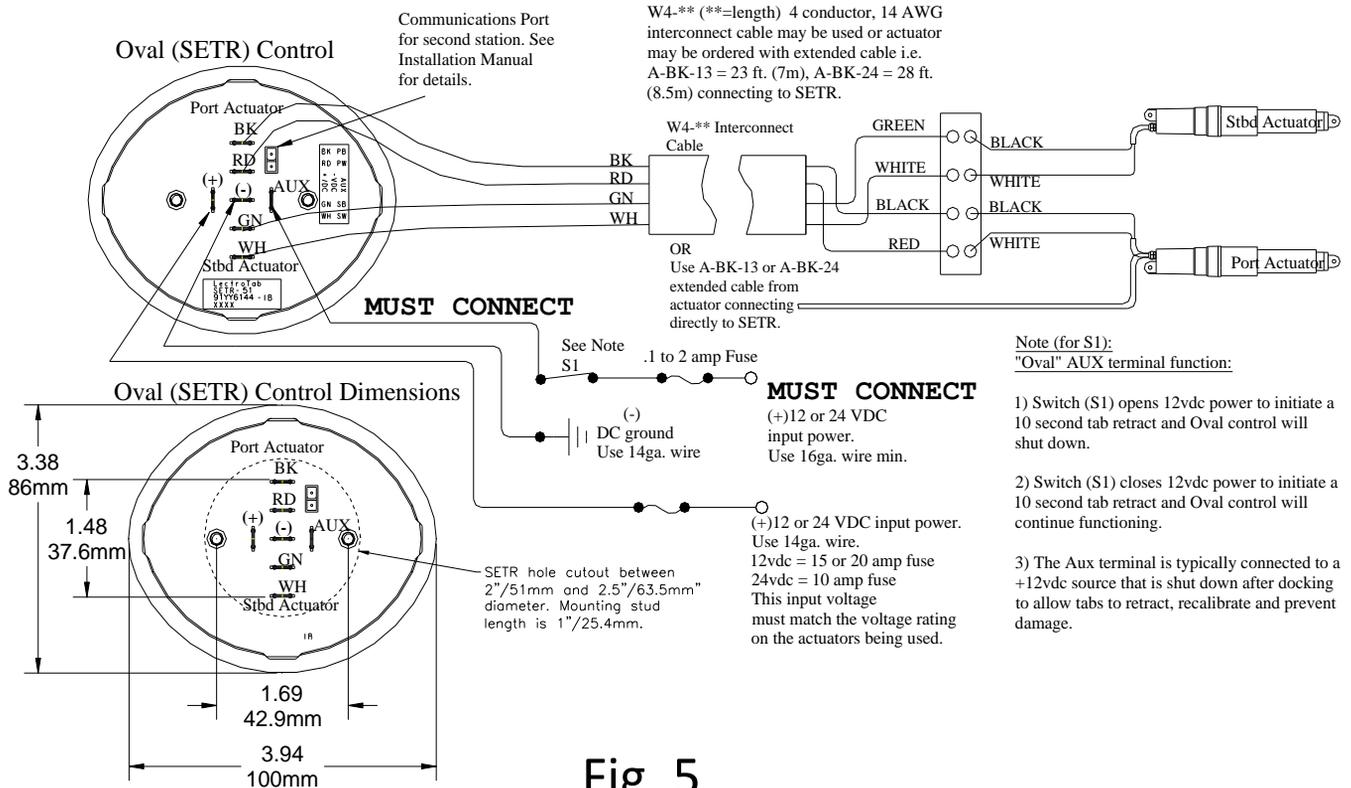

Fig. 5
2. If the W4-** cable is used to connect the switch to actuators, route the cut cable end from the Oval switch to the transom terminal strip. The push-on terminal end of the 20' (6.1m), 4-conductor, 14 AWG (2.08mm sq.) cable connects to the Oval switch (KA Kits), or route the longer 23' (7m) actuator cable directly to the Oval switch (XKA Kits). Connect cable to switch as shown in Fig.5.
3. Connect a fused 12vdc or 24vdc power source as shown in Fig 5. **Power source voltage must match the actuator voltage.** The **AUX** terminal on the Oval control **MUST** be connected to a switched +12 or 24vdc source such as an ignition key switch or auxiliary panel switch. When the key switch is turned off, the tabs automatically retract.